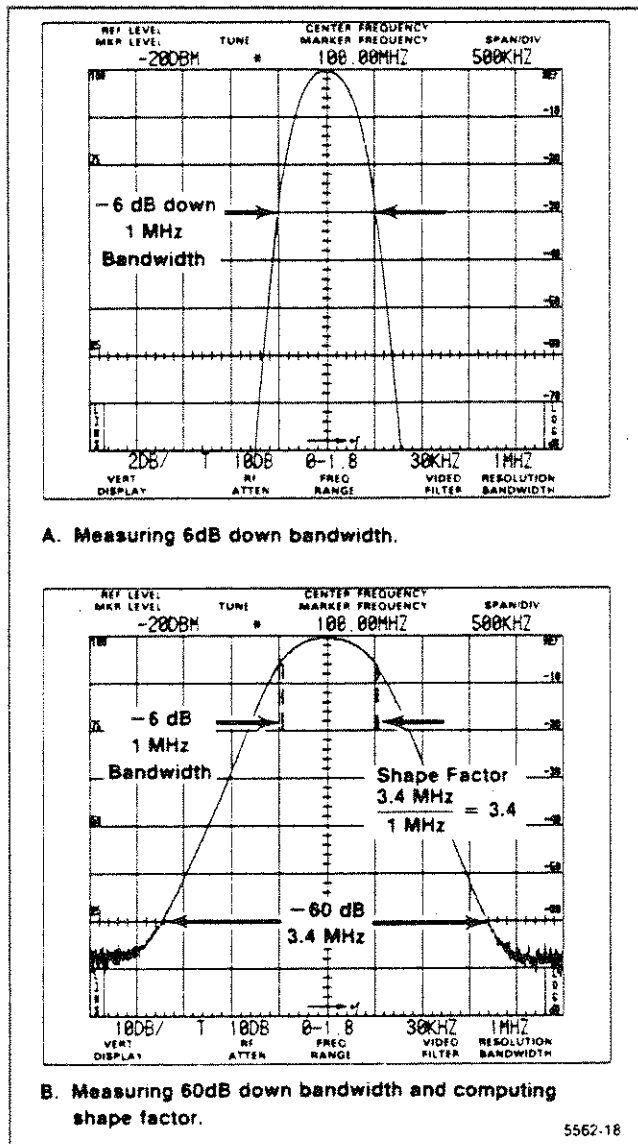

Figure 5-5. Displays that illustrate how bandwidth and shape factor are determined.
d. Calculate the shape factor as the ratio of -60 dB/ -6 dB bandwidths (see Figure 5-5). Shape factor should equal 7.5:1 or less.